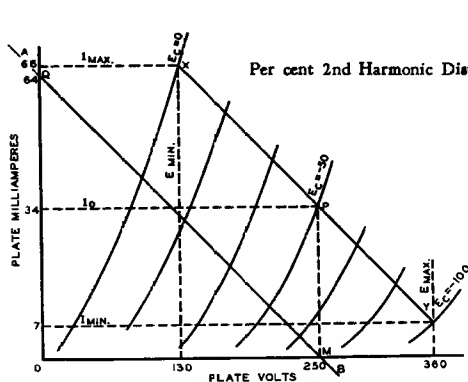

Fig. 11
*Power output for triodes* as single-tube Class A amplifiers can be calculated without serious error from the plate family of curves by assuming a resistance load. The proper plate current, grid bias, and optimum load resistance, as well as the per cent second-harmonic distortion, can also be determined. The calculations are made graphically and are illustrated by Fig. 11 for given conditions. The procedure is as follows: A straight line XY is drawn through the point P on the plate family of curves. This point is determined by the tentatively chosen values of plate voltage and plate current. The slope of the line XY corresponds to the value of load resistance tentatively chosen. The slope of XY is determined by adjusting a line through P so that the voltage value (at the intersection of the line with the zero-current axis) divided by the current value (at the intersection of the line with the zero-voltage axis) gives the desired trial load resistance. A more direct method is to draw any convenient line AB having the proper slope, and then to draw XY parallel to it and through P. To draw AB, choose any convenient voltage value on the zero-current axis. A line drawn through this point and given the proper slope must intersect the zero-voltage axis at a current value equal to the chosen voltage divided by the chosen resistance value.